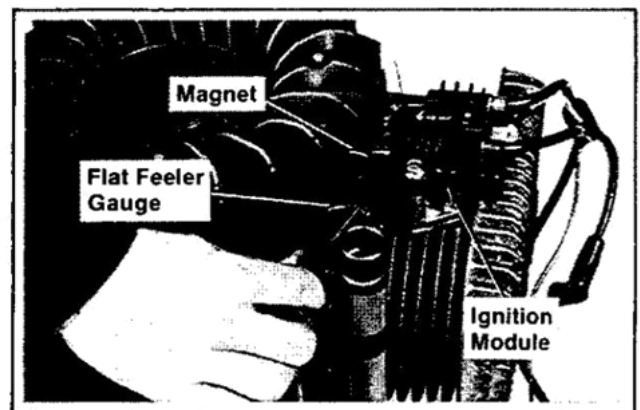

Figure 8-6. Setting Magnet-To-Module Air Gap.
2. Insert a .014" flat feeler gauge (or shim stock) between the magnet and module. Refer to Figure 8-6.